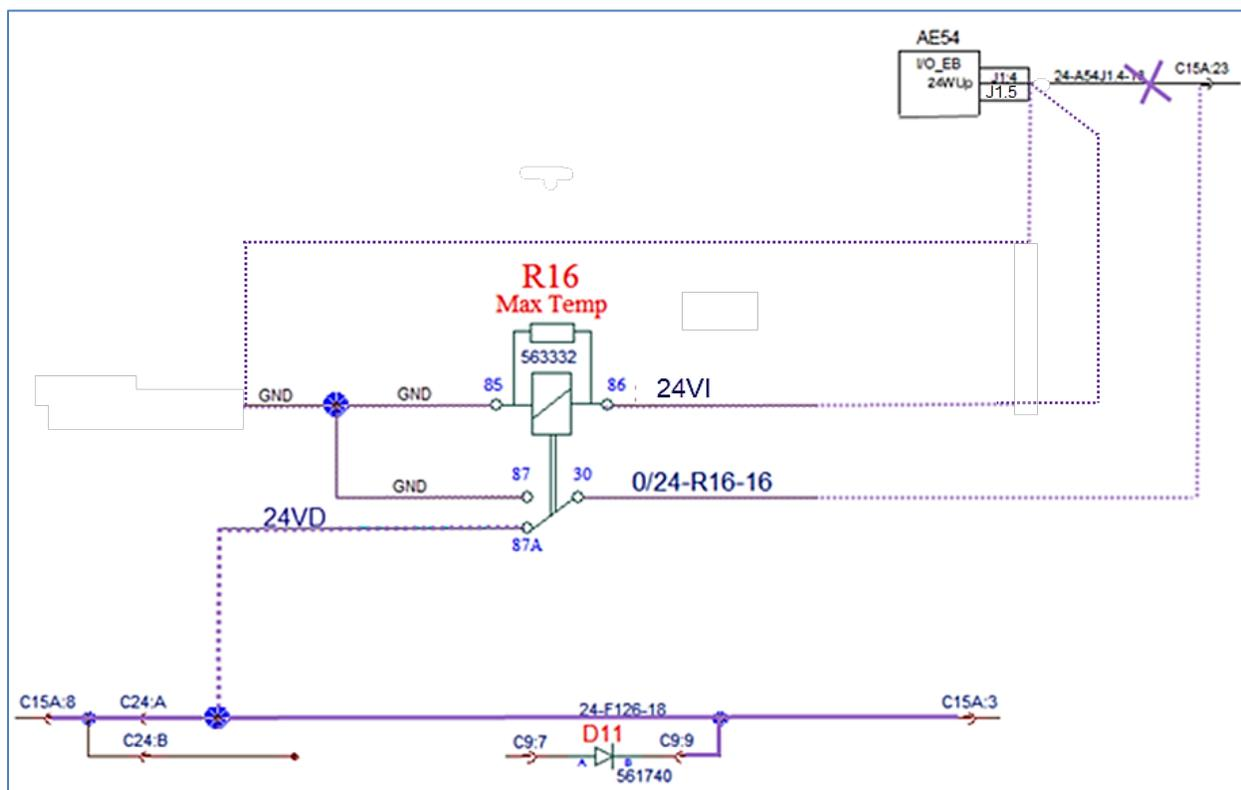

FIGURE 8
5. Inside the evaporator compartment: connect circuit 24VI of harness 0610217 to module AE54 connector J1 pin 4 cavity (Figure 8).
6. Inside the evaporator compartment: connect circuit GND of harness 0610217 to module AE54 connector J1 pin 5 cavity (Figure 8).
7. Inside the evaporator compartment: connect circuit 0/24 of harness 0610217 to connector C15A pin 23 cavity (Figure 8).
8. Inside the evaporator compartment: splice circuit 24VD of harness 0610217 with circuit C15A.8 (...to C15A.3) (Figure 8) using butt splice 562228. Take note that C24 is located in the evaporator compartment.